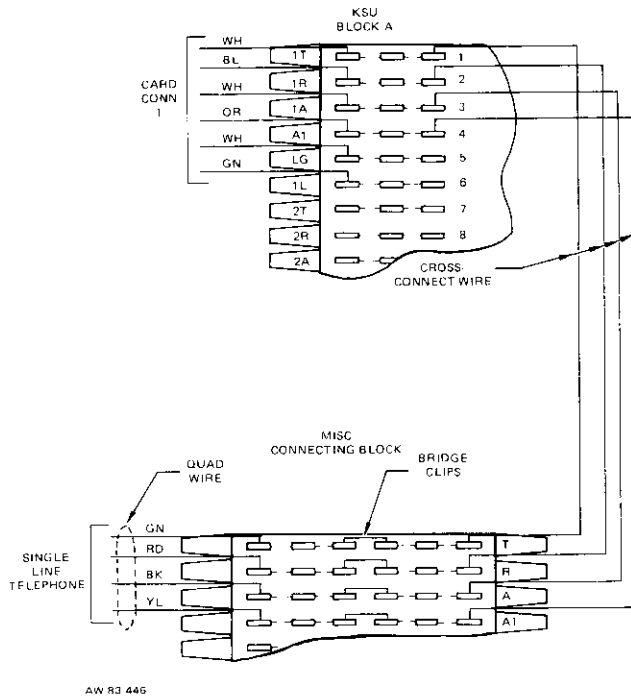

Figure 11: Connecting Details, Line KTU to Single-Line Station
4.15 For a single-line telephone used as a line answering station, cross-connect the T, R, A, and A1 terminals on connecting block A or on the KSU expansion block on the MDF to the corresponding terminals on the MISC connecting block. Use bridging clips to complete the connections to the single-line telephone. (Refer to Figure 11.)